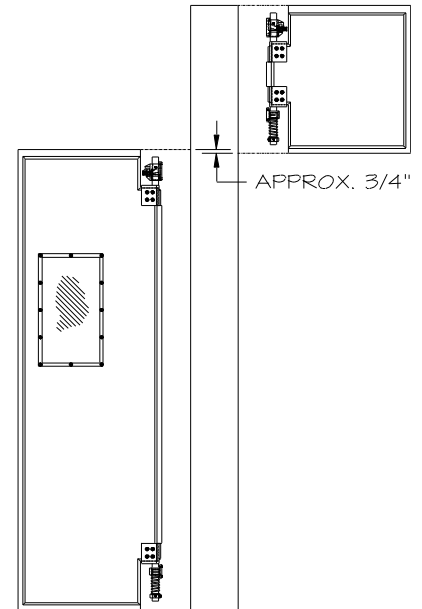

FIG. 8
- b. **Mark** Double Dutch panel height on jamb (Figure 8).